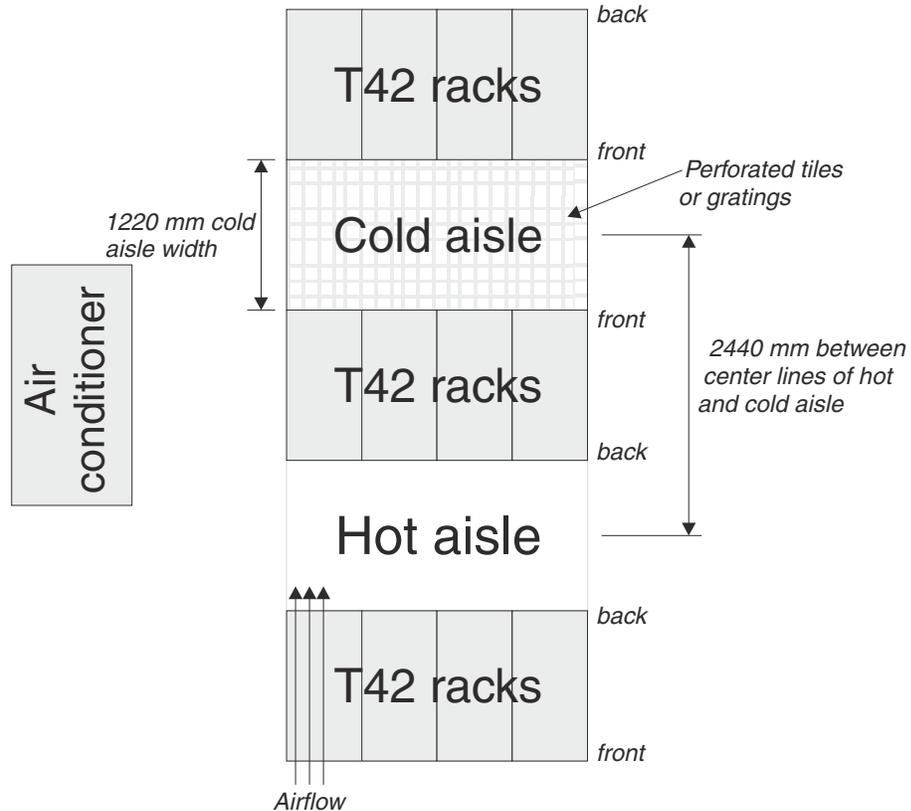

Figure 7. Example of Cold Aisle/Hot Aisle Rack Configuration
- Air enters at the front of the rack and leaves at the back. To prevent the air that is leaving the rack from entering the intake of another piece of equipment, racks must be positioned in alternate rows, back-to-back and front-to-front. This arrangement is known as “Cold Aisle / Hot Aisle” and is shown in Figure 7 on page 14.